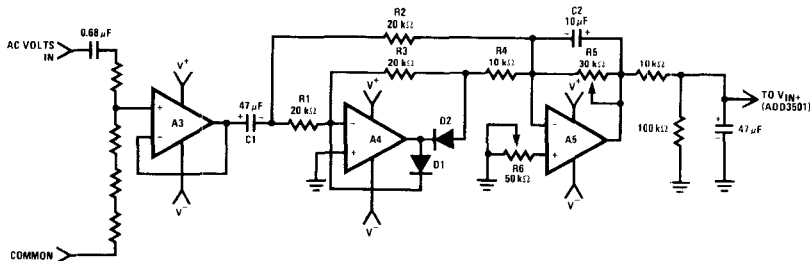

FIGURE 2. AC/DC Converter
**AC Voltage Measurement.** Switching the DMM to its AC VOLTS mode brings the circuit of Figure 2 into function. This circuit operates as an averaging filter to generate a DC output proportional to the value of the rectified AC input; this value, in turn, is "tapped down" by R5 to a level equivalent to the input's rms value, which is the value displayed by the DMM.
A4 and A5 comprise the actual AC-to-DC converter; to see how it works refer again to Figure 2, and consider first its operation on the negative portion of an AC input signal. At the output of A4 are 2 diodes, D1 and D2, which act as switches. For a negative input to A4's inverting input, D1 turns on and clamps A4's output to 0.7V, while D2 opens, disconnecting A4's output from A5's summing point (the inverting input). A5 now operates as a simple inverter: R2 is its input resistor, R5 its feedback resistor, and its output is positive.
The third possible improvement—the reading of true-rms values—can be implemented by replacing the AC-to-DC converter of Figure 2 with National's LH0091, a true-rms-to-DC converter, and appropriate interface circuitry.